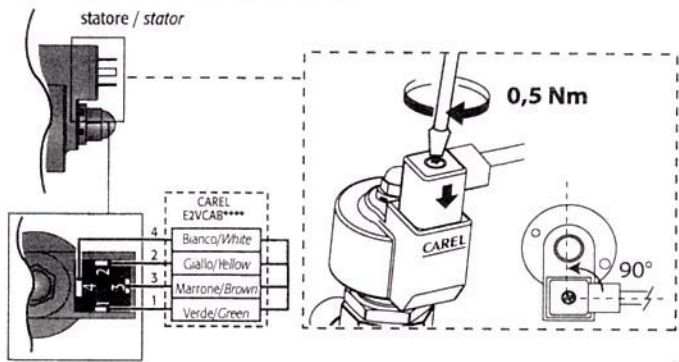

Fig. 3
- connect the pre-wired connector to the socket on the stepper motor and tighten the screw tightening torque 0.5 Nm following the instructions in Fig. 3. Connect the four-pin end of the cable to the corresponding terminals on the CAREL EVD*** driver or approved CAREL controller and set the parameters as shown in the table below.